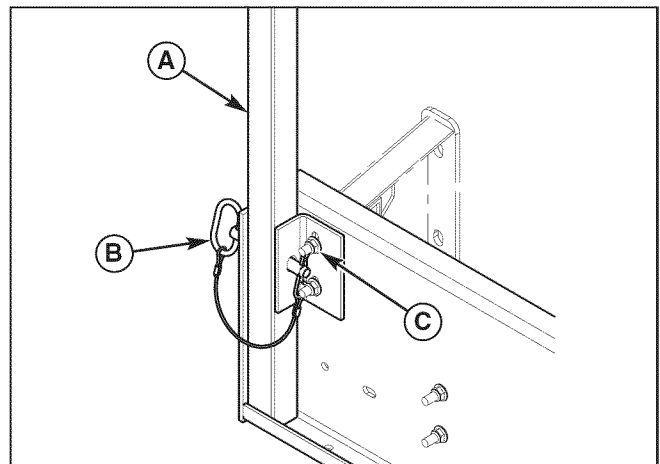

Figure 34. Install Mount Posts & Hitch Pins
2. Install the remaining 3/8-16 U-bolt bolt (C) over the middle bumper tube and loosely secure with the 3/8-16 nylock flange nuts (E).
4. Temporarily install the collector mount posts (A, Figure 34) into the collector plate and install the hitch pins (B). This will insure that the holes are properly aligned for easy installation and removal.
5. Tighten the top nuts (C) securely and remove the hitch pins and mount posts.